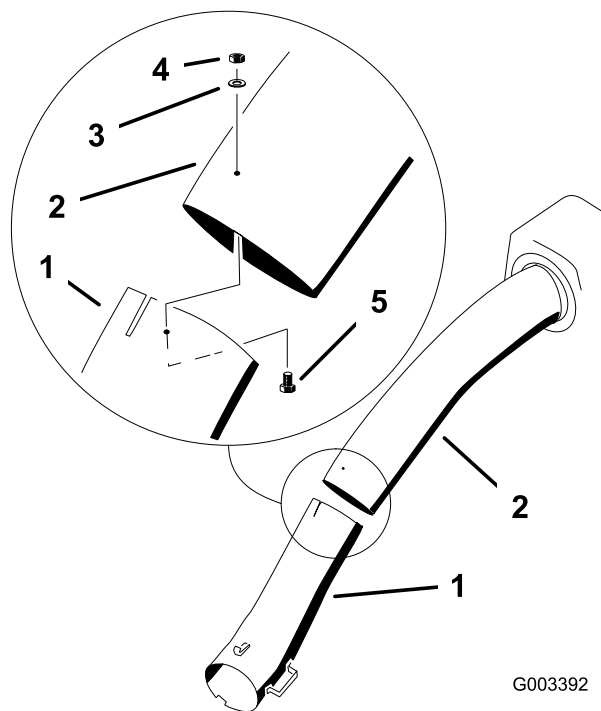

Figure 25
- Join the upper and lower tubes with 3 bolts (#10 x 3/4 inches), 3 flat washers (7/32 inch), and 3 locknuts (#10) as shown in Figure 25.